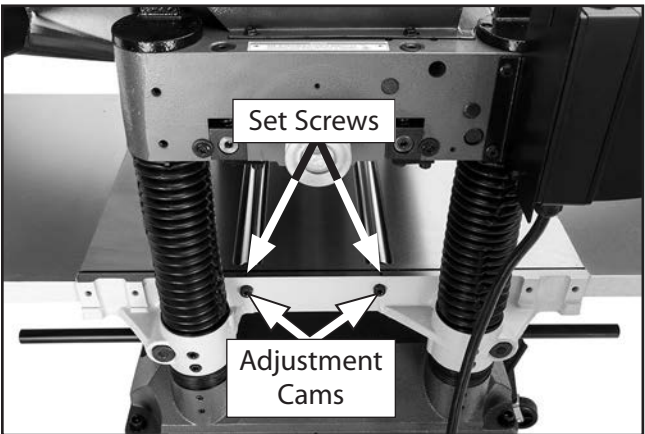

Figure 25. Bed roller height controls.
3. Loosen set screws (see **Figure 25**) above each of four roller adjustment cams (there are two on each side of planer).